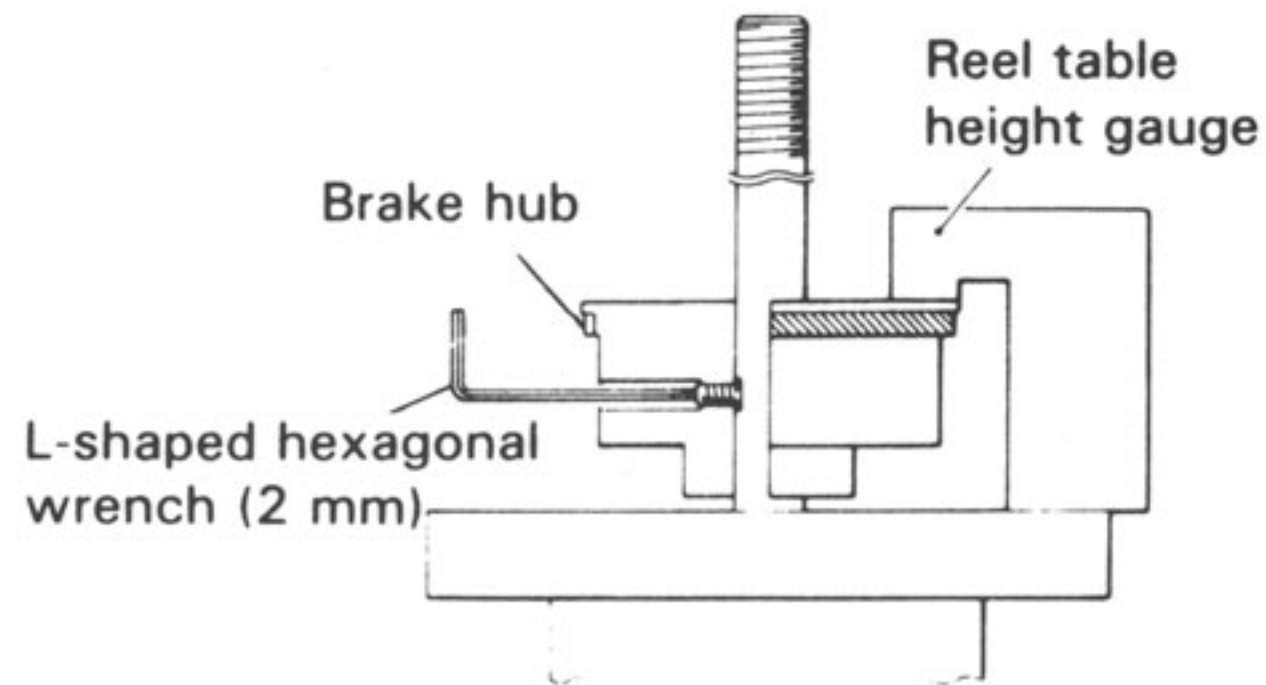

Figure 6-3. Reel Table Height
Before installing a reel motor or to check the motors already installed in a machine, use the reel height gauge as shown in Figure 6-3. If it is necessary to adjust the height of a reel table, use the following procedure.
- STEP 1.** Loosen the set screw in the brake hub as shown in Figure 6-3 using a 2mm hex wrench.